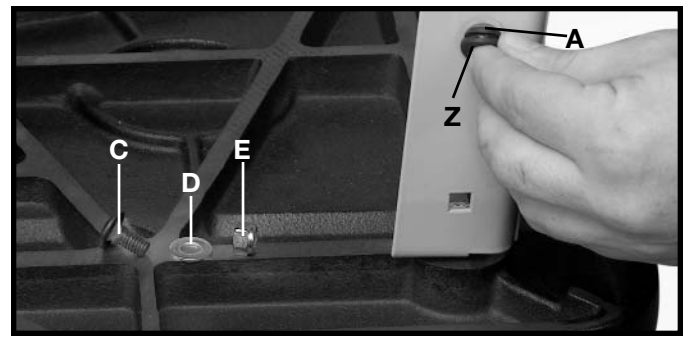
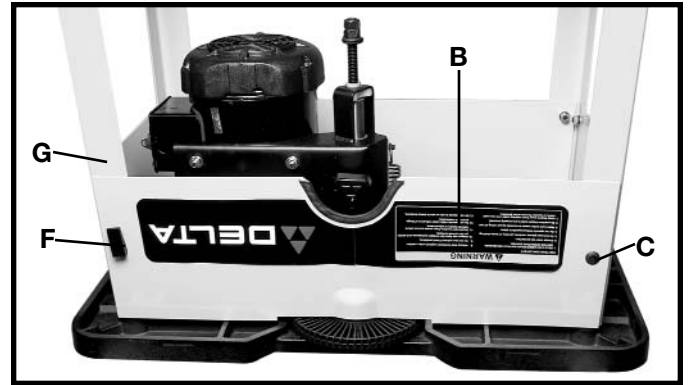

Fig. 6
Fig. 7
4. Assemble 3/8" rubber grommet (Z) Fig. 6, to round hole (A) in leg.
5. Assemble front panel (B) Fig. 7, to the outside of the two front legs. Insert a 5/16-18x5/8" carriage head bolt (C) Figs. 6 and 7, through the hole in the front panel and the hole in rubber grommet (Z) Fig. 6. Place a 5/16" flat washer (D) Fig 6, on the carriage head bolt, and thread a 5/16-18 lock nut (E) Fig. 6, on the carriage head bolt and tighten the lock nut just enough, for the nut to start to compress the rubber grommet (Z).
6. Lift up latch (F) Fig. 7, insert stud on inside of latch into round hole in leg (G), and press down to lock latch (F).